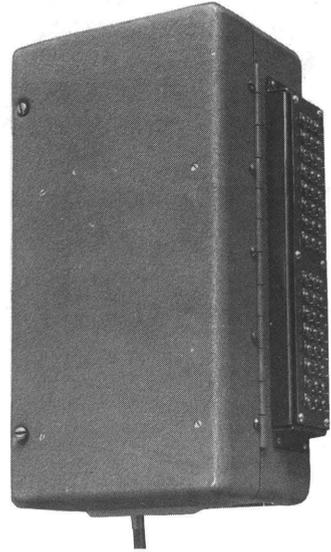

Fig. 55—700A Interconnecting Service Unit (formerly F58003 [MD] ISU)
**2.57 700A Interconnecting Service Unit**—Approximately 15 inches high, 9 inches wide, and 5-1/2 inches deep and is equipped with an apparatus mounting and six 20-pin connectors to house six 108A interconnecting units. The 700A2 unit is also equipped with a 28A1 plug-in type power unit which supplies 24-volt battery and ground. This unit is intended to be used in association with the 105A interconnecting unit. (See Fig. 55.)